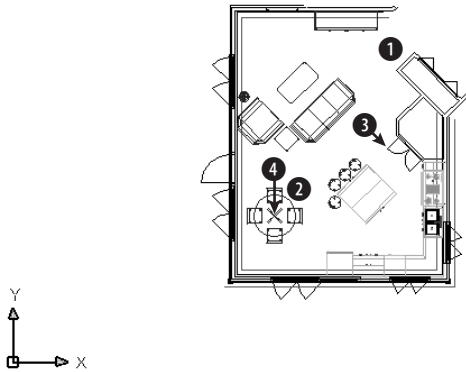

Figure 22-38: A 3D house in plan view
2. Save it as *ab22-03.dwg* in your AutoCAD Bible folder. This is a portion of a 3D house in plan view, as shown in Figure 22-38. Make sure that OSNAP is on. Set a running object snap set for endpoint and turn off any other object snaps.
3. You want to create a perspective view from approximately ❶ to ❷ in Figure 22-38. You can see right away that the wall near ❶ will need clipping. To get the distance of the clipping plane from the target, choose Tools ⇨ Inquiry ⇨ Distance and pick ❸ and ❹. The pertinent information is Distance = 12'-5 9/16". You may get a slightly different distance. To see the distance information, press F2 to open the AutoCAD Text window.